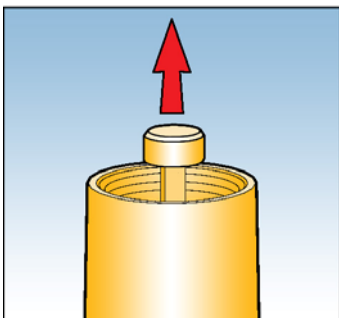

Fig. 5
6. Pull UPSCO reset spindle (See Fig. 5.) Hold in this position until the outlet pipework is fully pressurised, then release.